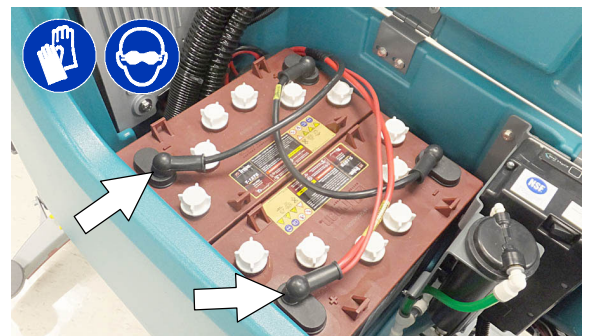

FIG. 115
1. Disconnect the battery cable connection at machine (Figure 115).